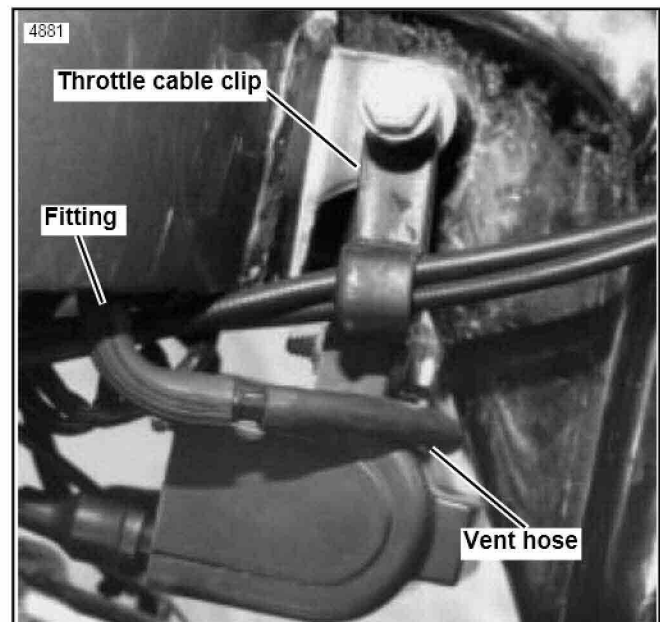

Figure 1. Right Side View
2. See Figure 1. Disconnect vent hose at fitting under fuel tank.
4. See Service Parts illustration. Select the correct length front bolt (5). On 883 cc models use the 5/16-18 x 4-3/8 in. bolt. 1200 cc models use the 5/16-18 x 3-5/8 in. bolt.
5. Install the front bolt, making certain coil bracket is positioned inboard of grommets and throttle cable clip is positioned as shown in Figure 1.
6. On 883 cc models, make certain that horn spacer (8) and horn (9) are properly positioned on front mount bolt.
7. Check that no wires or hoses are being pinched by fuel tank. Move wire and/or hoses as needed install nuts (6) and tighten front and rear bolts to 8-16 ft-lbs.